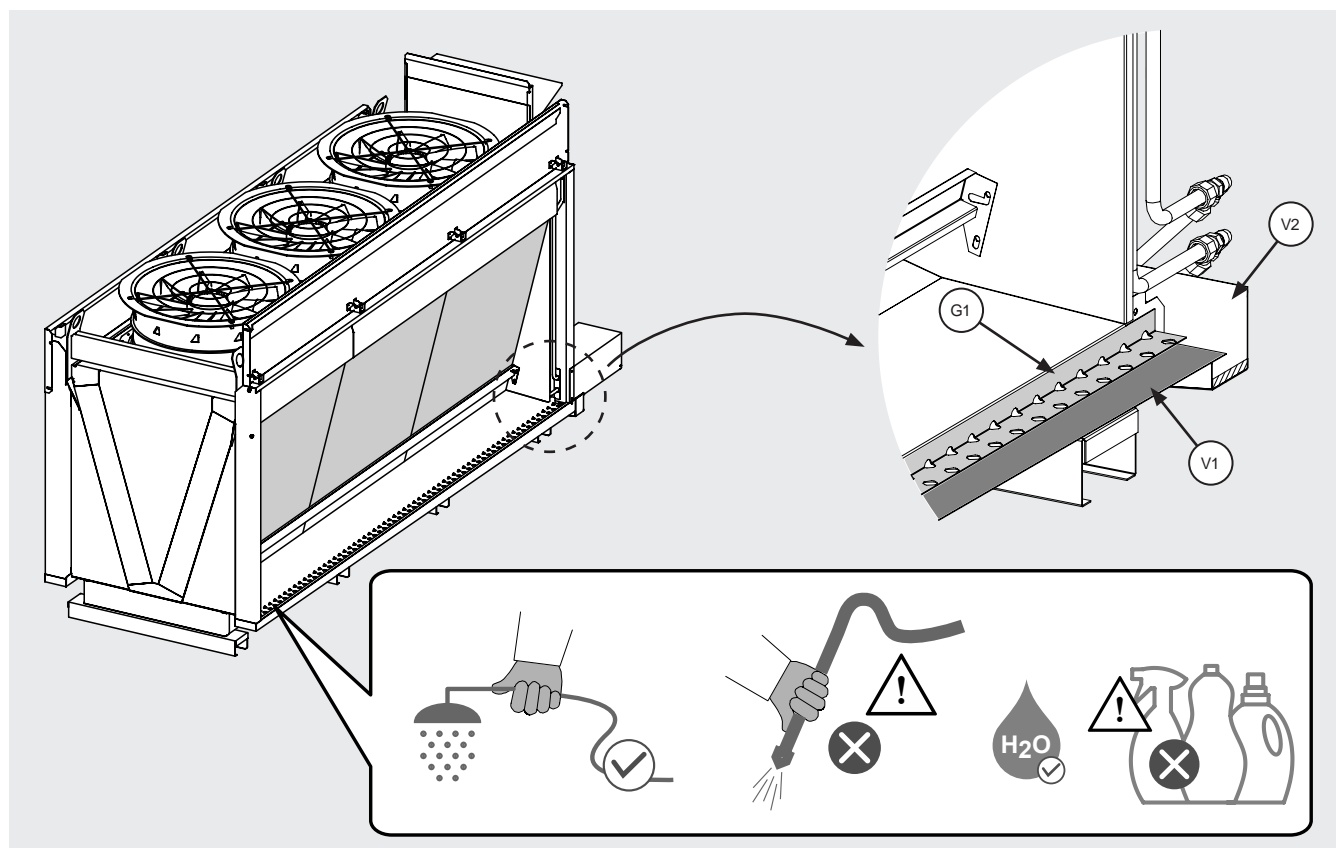

Figure 29
- 12.14.3 The model is equipped with 2 internal water collection tanks (V1) located under the two rows of adiabatic side panels. See Figure 29.